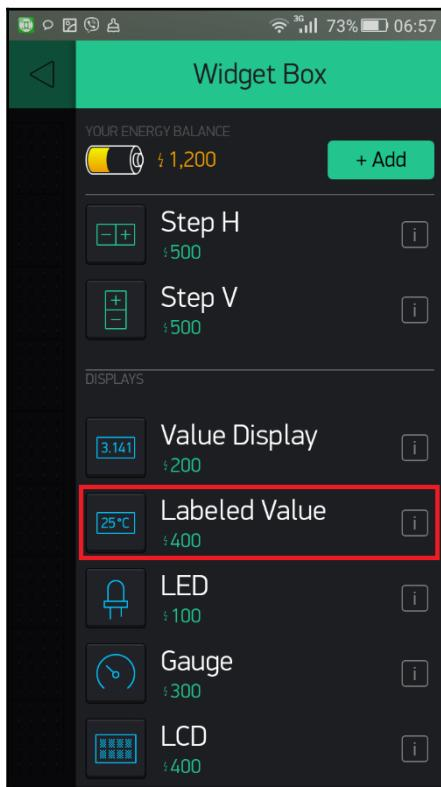

Figure 3.6: The Labeled Value widget
2. Tap on the **Widget Box** icon to get the list of widgets. Then, tap on the **Labeled Value** widget under the **DISPLAYS** section (*Figure 3.6*):